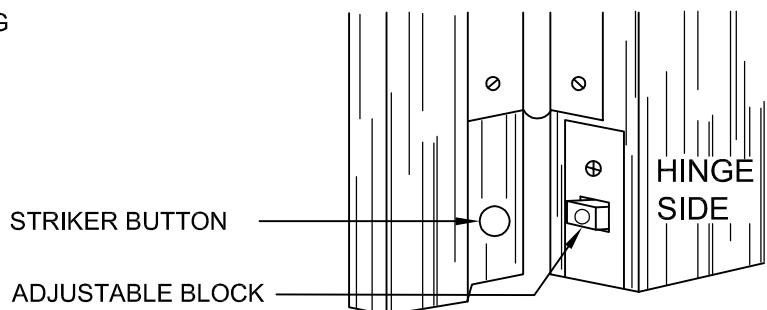

FIG.2
4. Fit seal into groove with adjustable block on hinged side of door and secure mounting plate with screw provided, making sure tongue is firmly supporting seal housing (FIG. 2).